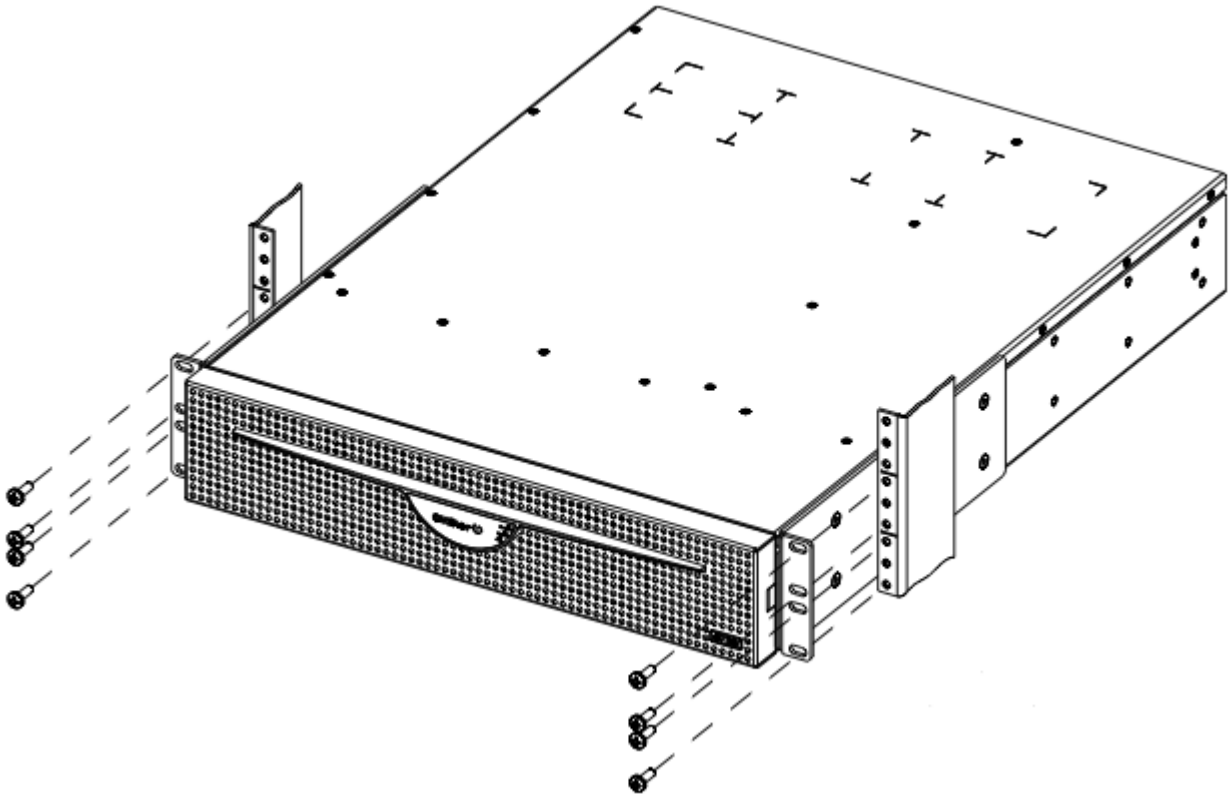

Figure 3-2 Cougar Being Attached to the Equipment Rack
Step 3: Attach the ONStor Cougar 6000 Series NAS Gateway with four 12-24 x 5/8" screws per mounting ear. The mounting ears span two rack units (RUs). See Figure 3-2.